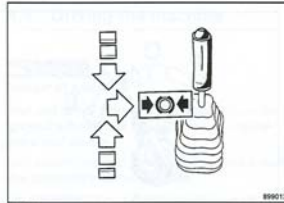

Fig. 21
- Check, whether the travel lever (Fig. 21) is locked to the right in braking position.